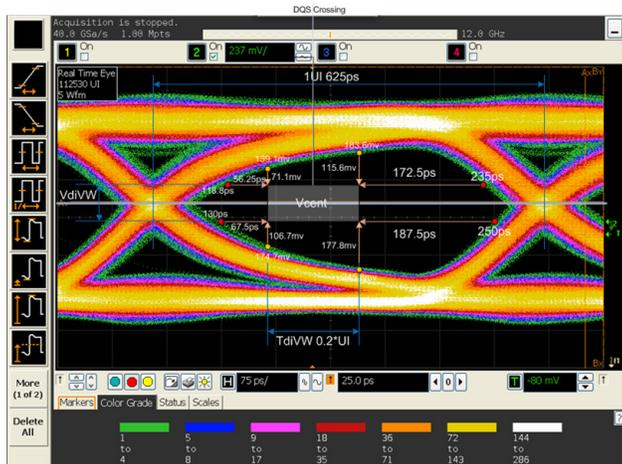
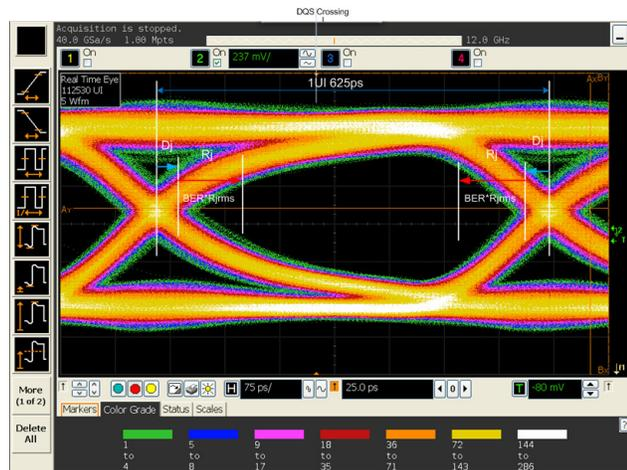
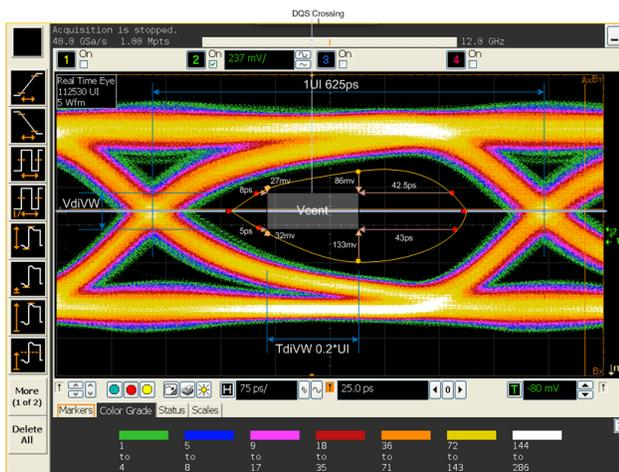
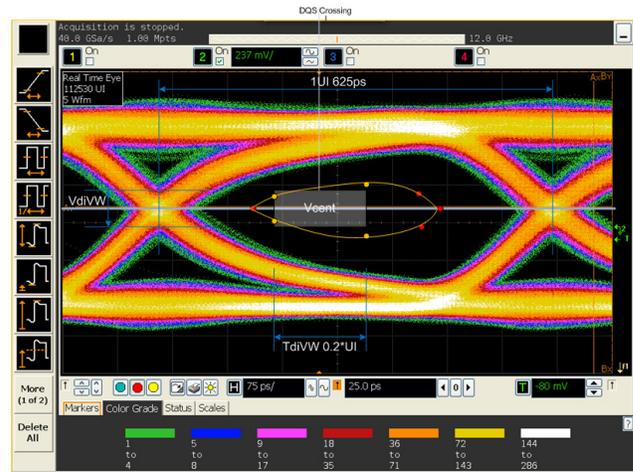

Figure1. Direct Measurement with 100,000 UI
Figure2. Dj and Rj impact on the data eye
Figure 3. Data Eye with 1E-12 BER
Figure 4. Data Eye with 1E-15 BER
When operating at a high data rate, the data valid window is very small. The noise in the system or crosstalk from adjacent electrical signals, or even electromagnetic interference could easily distort the signal integrity which could result in data sampling error. Real-time eye diagram provides eye height and eye width measurements for signal integrity checks and estimates the data valid window. However, simply measuring a data eye with real time eye diagram measurement does not give full insight into the data valid window and expectations of a bit failure rate. Figure 1 shows a write data eye with over 100,000 unit intervals (UI) measured. This initial measurement of over 100,000 UI would result in a measured TdiVW of 353.75ps (or a margin of 56.25ps to the defined mask) and a VdiVW of 377mv (or a margin of 71.1mv). Figure 2 shows how the (deterministic jitter (DJ)) and (random jitter (RJ)) lines show the impact of jitter over a long period of time and the actual data valid input window after 1 trillion UI (a $1e-12$ bit error rate or BER). Deterministic jitter is generally bound and predictable and can be correlated to the data stream; such as inter symbol interference and duty cycle distortion. Random jitter is generally Gaussian and is unbounded. As with any Gaussian distribution, as a population increases, so does the peak-to-peak value of the distribution. Therefore, total jitter is DJ plus a BER multiplier of RJ. Note that the data valid input window is made on write data. You can see how important it is to make BER measurement calculations to form a statistical measurement of total jitter in order to understand the design's data valid window result and to properly understand at what rate you can expect an error within the design. Additionally, understanding the components and sources of jitter can enable designers to reduce jitter in their designs and ensure better data performance.
Figure 3 shows the same eye diagram from Figure 1 now with contour points at a BER of $1e-12$ (or 1 trillion data transitions). Directly, measuring 1 trillion data transitions-, would be extremely time consuming. By extrapolating different BERs, we can begin to understand the failure rate to the mask that is expected. At $1e-12$, the TdiVW measurement is 173ps (with a margin to the defined mask of only 5ps). The VdiVW measurement is 259mv (with a margin of 27mV to the defined mask). This is a significant difference to the initial measurement for TdiVW and VdiVW. At a BER of $1E-12$, there is little margin to the mask, but we can say that we can expect better than a $1e-12$ failure rate (or 1 in 1 trillion). Figure 4 shows the contour of $1e-15$ which fails the mask. We know that we can expect bit failures to this mask within 1 quadrillion data transitions.